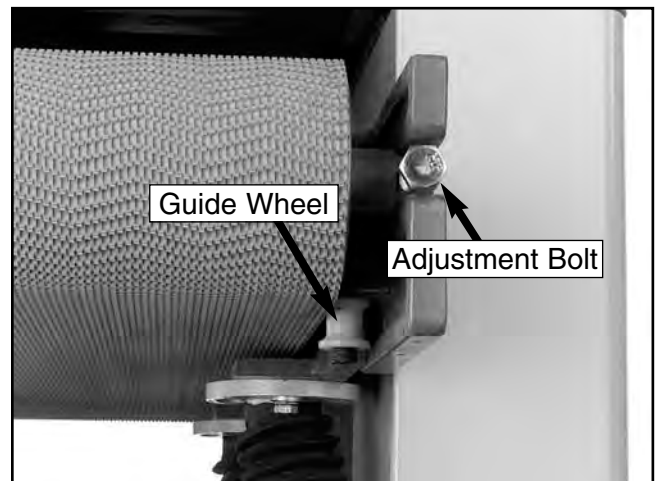

Figure 18. Feed belt tracking components.
- If the feed belt is tracking to the **left** side of the table, turn the **left** adjustment bolt (**Figure 18**) clockwise.
Note—*The edge of the feed belt should just touch the guide wheels as shown in **Figure 18**.*